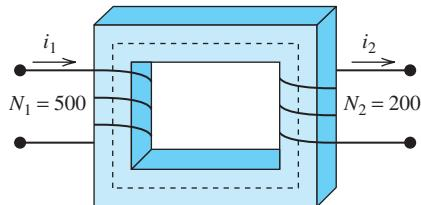

FIGURE P12.24 Magnetic circuit.
- 12.24 (B)*** Two coils are wound on a core as shown in Figure P12.24. The core reluctance is $\mathfrak{R} = 6.3 \times 10^6$ A-turns/Wb. Find the self-inductances of the coils.